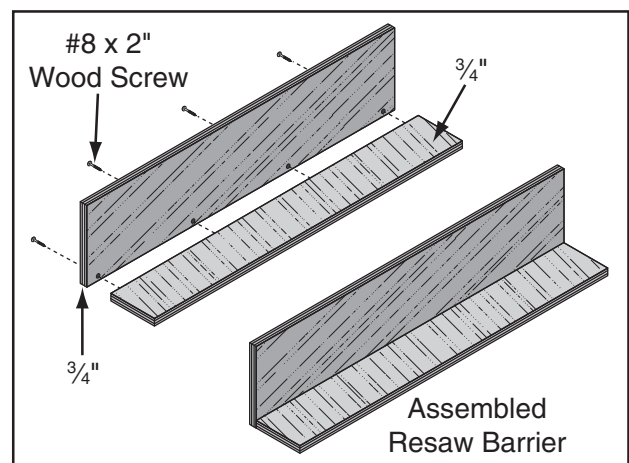

Figure 87. Resaw barrier.
3. Glue the end of the 3" board, then clamp the boards at a 90° angle with the larger board in the vertical position, as shown in **Figure 87**, then fasten together with the wood screws.